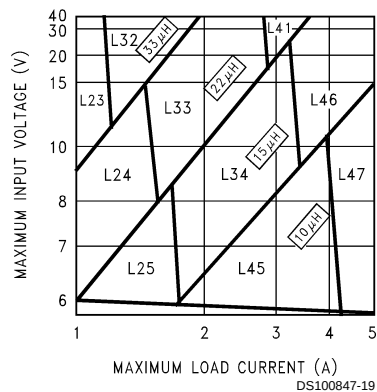
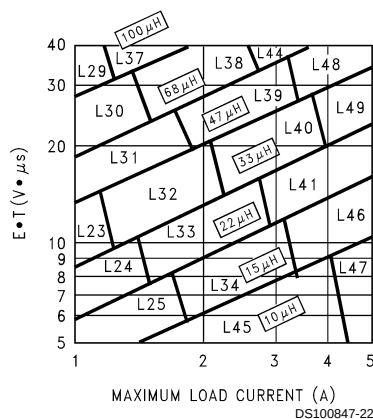

FIGURE 3. LM2679-3.3
FIGURE 6. LM2679-ADJ
Step 3: Determine the inductor required by using one of the four nomographs, *Figure 3* through *Figure 6*. Table 1 provides a specific manufacturer and part number for the inductor.
Step 5: Determine an input capacitor from Table 4 for fixed output voltage applications. Use Table 2 to find the specific capacitor type. For adjustable output circuits select a capacitor from Table 2 with a sufficient working voltage (WV) rating greater than $V_{in\ max}$, and an rms current rating greater than one-half the maximum load current (2 or more capacitors in parallel may be required).
Step 3: Use the nomograph for the 3.3V device, *Figure 3*. The intersection of the 16V horizontal line ($V_{in\ max}$) and the 4A vertical line ($I_{load\ max}$) indicates that L46, a 15 μ H inductor, is required.
Step 3: To use the nomograph for the adjustable device, Figure 6, requires a calculation of the inductor Volt•microsecond constant ($E \cdot T$ expressed in $V \cdot \mu\text{s}$) from the following formula:
Using Figure 6, the intersection of $27V \cdot \mu\text{s}$ horizontally and the 3.5A vertical line ($I_{load \text{ max}}$) indicates that L48, a 47 μH inductor, or L49, a 33 μH inductor could be used. Either inductor will be suitable, but for this example selecting the larger inductance will result in lower ripple current.
Important Note: When using the adjustable device in low voltage applications (less than 3V output), if the nomograph, Figure 6, selects an inductance of 22 μH or less, Table 6 does not provide an output capacitor solution. With these conditions the number of output capacitors required for stable operation becomes impractical. It is recommended to use either a 33 μH or 47 μH inductor and the output capacitors from Table 6.